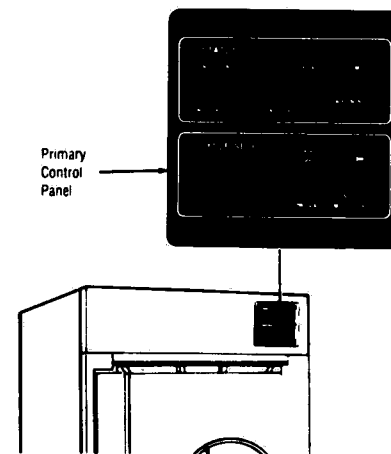

Figure 2-5. NON-OPERATING END PRIMARY CONTROL PANEL.
2.9 CONTROLS AND SIGNALS FOR DOUBLE-DOOR STERILIZERS (Fig. 2-5)